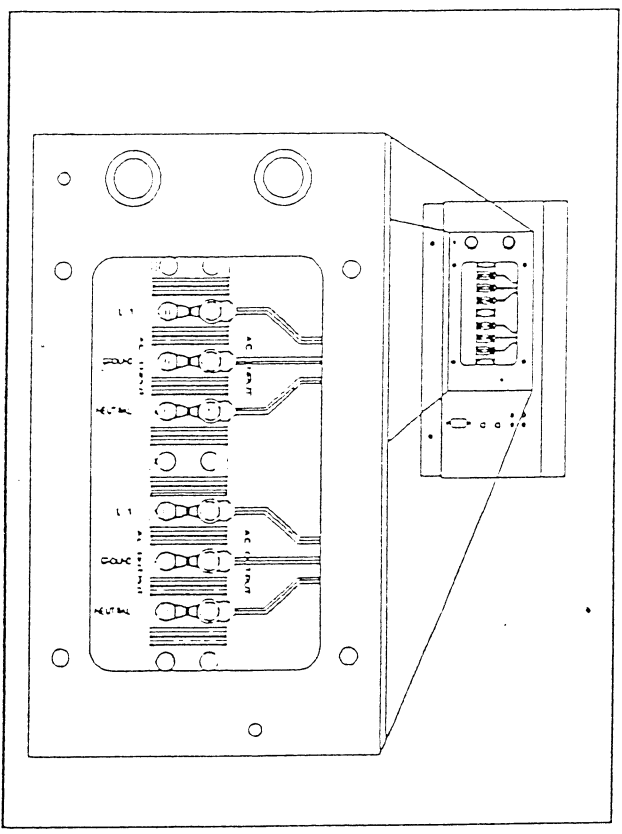

Figure 1 AC Input/Output Access Panel
- 4a. Refer to Figure 1 and connect the wires to the designated places on the terminal strip. Double check that they are connected correctly.
The ground lugs in the electrical outlets of your AC system are connected to the ground (green) terminal of the AC terminal strip. (See Figure 1.) This is connected to the EMS chassis ground. This means that when you use an appliance with a standard 3 wire grounded plug with the EMS, the ground from the appliance is connected through the EMS to ground.